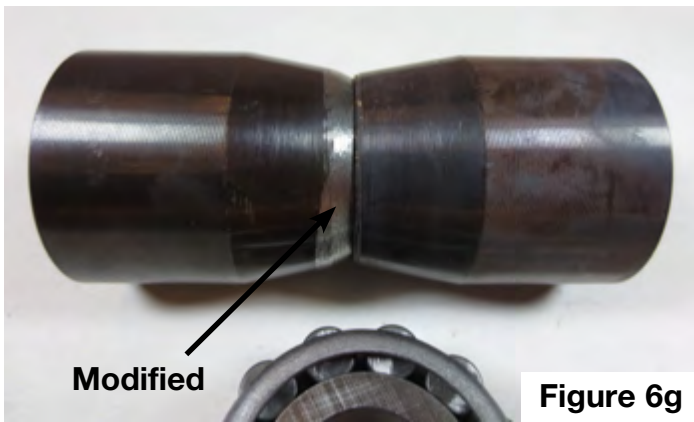

Figure 6g
- g. Repeat this step until the bearing spins freely with the spacer pinning the inner race firmly to the table. Figure 6g shows a before and after of the modified corner.